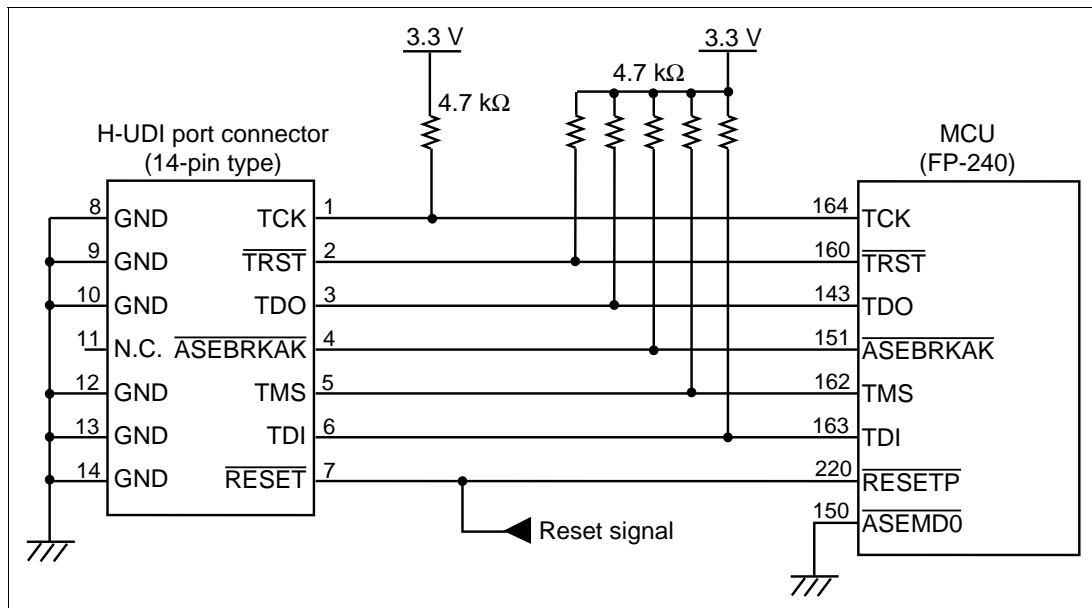

**Figure 4.1 Recommended Circuit for Connection between the H-UDI Port Connector and MCU (36-Pin Type)**
Figure 4.1 shows a recommended circuit between the H-UDI port connector (36 pins) and the MCU.
- (1) When the emulator is used: /ASEMD0 = low (ASE mode)
- (2) When the emulator is not used: /ASEMD0 = high (normal mode)
7. The resistance values shown in figure 4.1 are recommended.